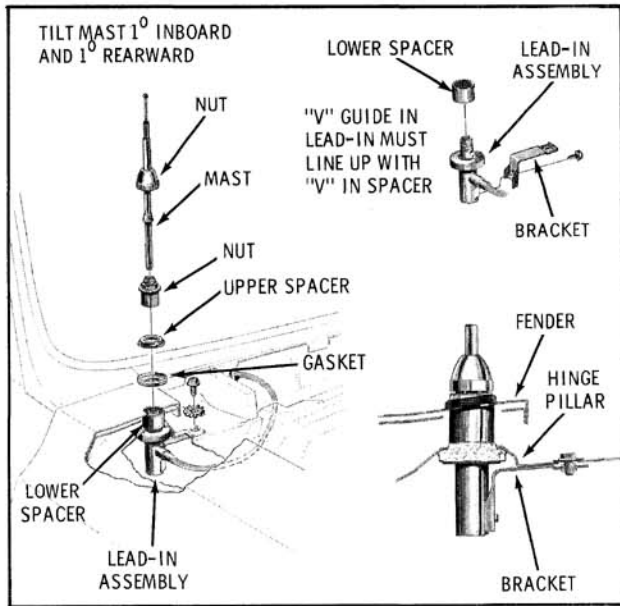

Fig. 12-129 Manual Antenna
4. Remove lead-in nut, upper spacer and gasket, (Fig. 12-129)
When installing, be sure to align the lower spacer to the lead-in as illustrated in Fig. 12-129.